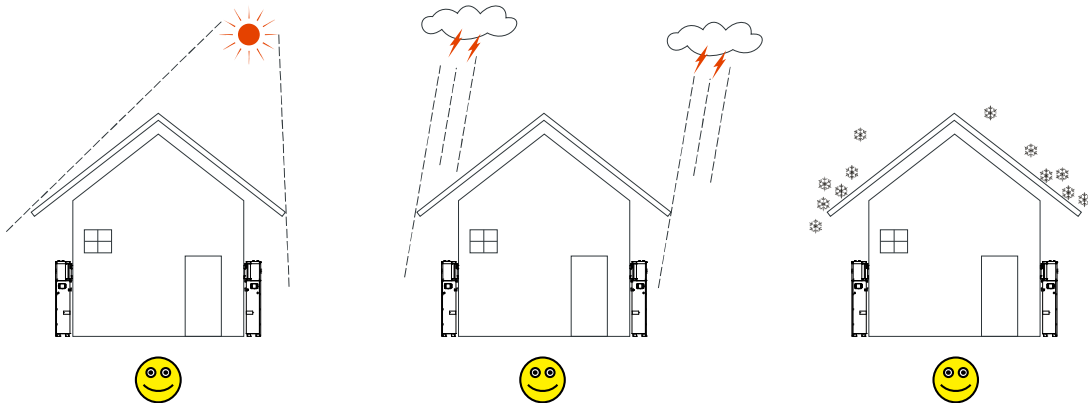

Figure3-2 Recommended installation site
2. It is suggested to install the inverter under shade as shown in Figure3-2 to max. the inverter lifespan and efficiency.